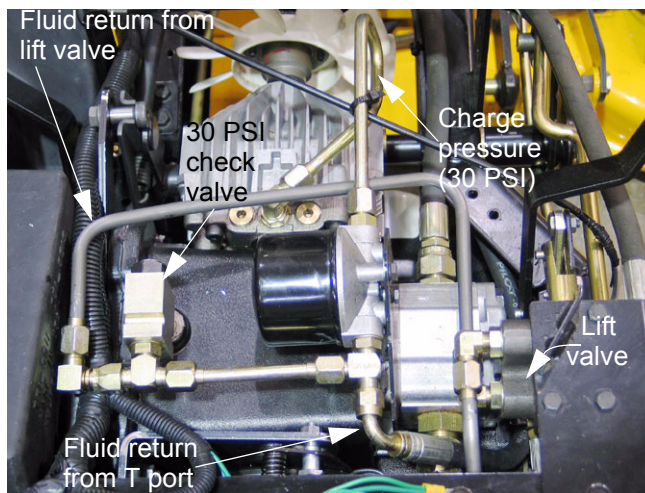

Figure 1.19
- 1.19. The fluid may pass through the T port, to the return manifold. See Figure 1.19.